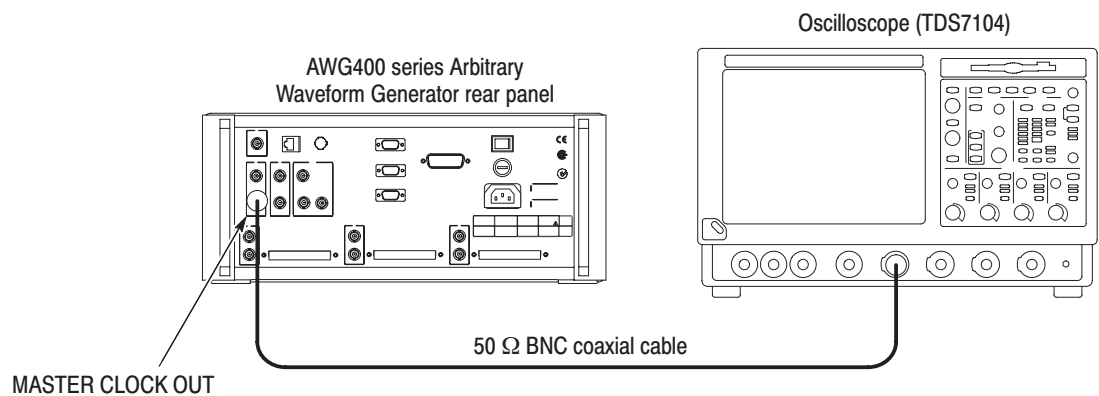

Figure 4-43: Master Clock output initial test hookup
- a. Use the 50 Ω BNC coaxial cable to connect the AWG400-Series MASTER CLOCK OUT output to the oscilloscope input connector (see Figure 4-43).